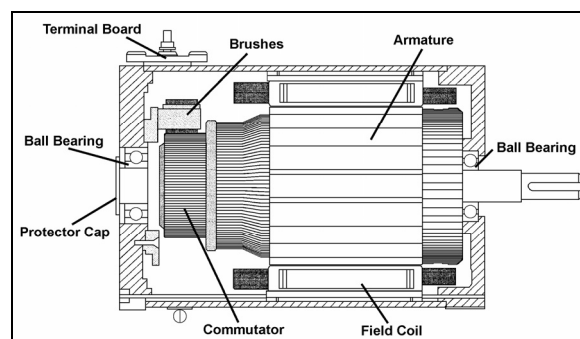

FIGURE 31: CONDENSER FAN MOTOR
Two fan motors (Fig. 31), 28.5 V - (0.6 HP - 0.42 kW) and cages are installed in the condenser compartment on R.H. side of vehicle in order to ventilate the condenser coil. They are mounted on a support, fastened to the floor. The fans pull outside air through the condenser coil and discharge it through an opening at bottom of compartment. When temperature drops inside condenser, the pressure in the refrigerant line also drops and it is, therefore, no longer required to cool condenser. Consequently, when pressure drops to 130 psi, the motors will run at low speed and if the pressure continues to drop to 90 psi, a pressure switch stops the motors so that fans do not operate needlessly. When pressure rises to 120 psi, the pressure switch reactivates the motors. If the pressure rises to 170 psi, the motors will switch to high speed.
2. Unscrew the flange retaining screws on the shaft end side (opposite to the commutator end frame), and separate flange from frame (Fig. 31).